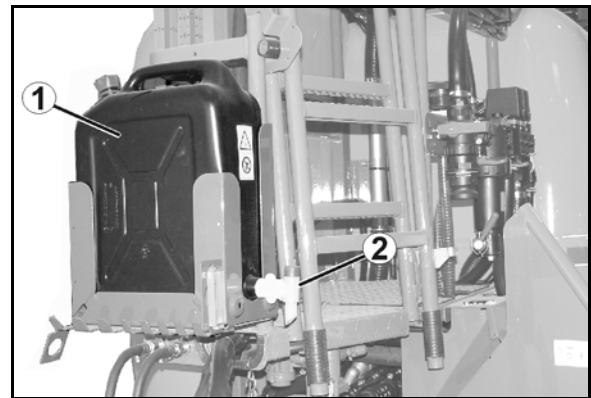

Fig. 59
- the closed folding cover is pressed downwards (Fig. 59).